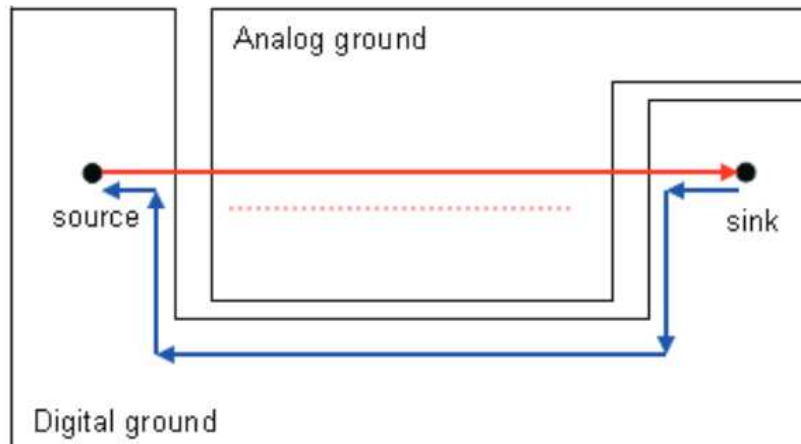

图 21. Loop Area and Crosstalk Due to Poor Signal Routing and Ground Splitting
- A routed trace over a gap creates large loop areas, because the return current cannot flow beside the signal, and the signal can induce noise into the nonrelated reference plane (图 21).